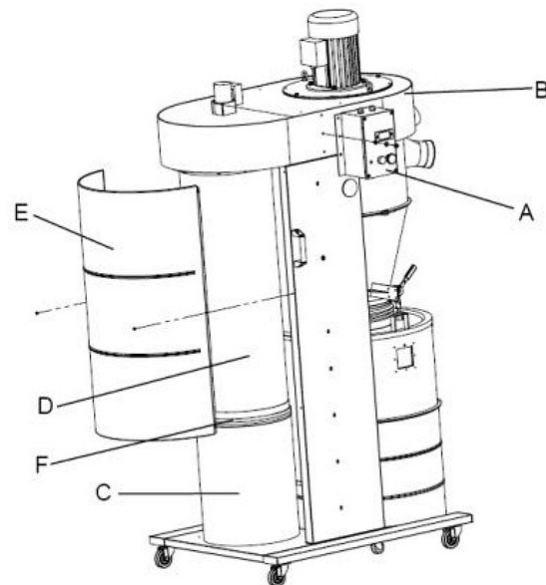

Fig. 12: Mount switch box and filter cover
Step 15: Mount the switch box (A, Fig.12) with on / off switch to the housing (B, Fig.12).
Step 16: Attach the chip bag (C, Fig.12) to the filter cartridge (D, Fig.12) with the hose clamp (F, Fig.12).
Step 17: Mount the filter cover (E, Fig.12) to the left and right side panels and fasten it.